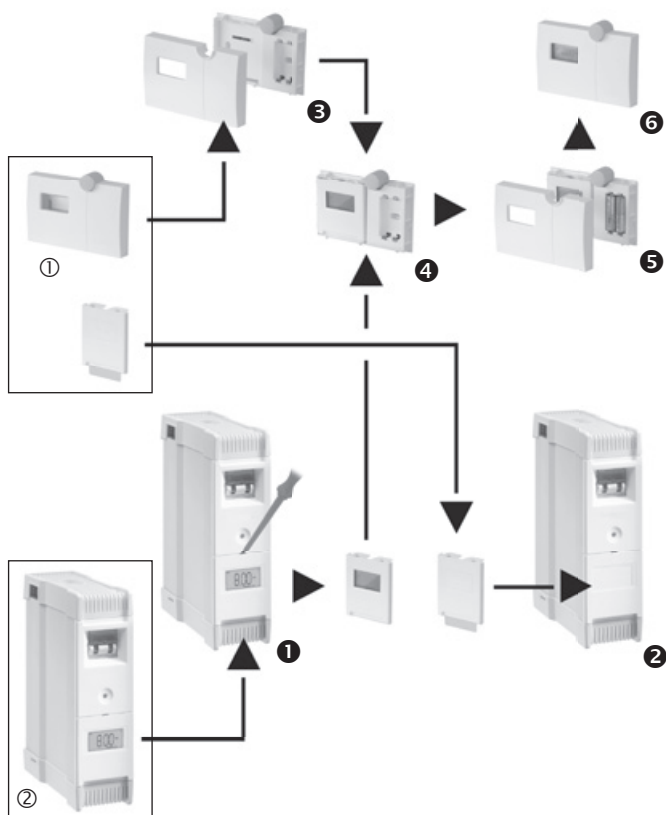

Fig. 2: Implement display of the monitoring unit in the remote display
To be able to use the remote display ① (Fig. 2) the monitoring unit display ② must be implemented in the remote display. To do this, the display must have been present in the monitoring unit when it was switched on for the first time.